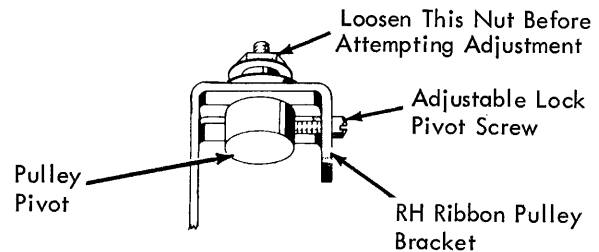

FIGURE 275. Right Hand Pulley
5. Right Hand Pulley (Fig. 275 & 276) - With the red shift armature energized, position the right hand pulley pivot to obtain .002" to .005" clearance between the stud and follower latch slot.